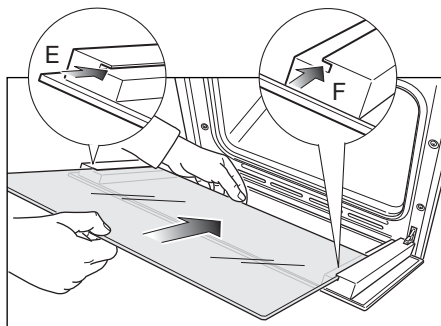
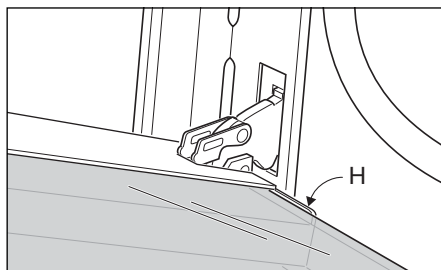

Fig.24b
Fig.24c
- Insert the pane in the left "E" and right "F" slide guides (Fig. 24b), and gently slide it to the retainers "H" (Fig. 24c).